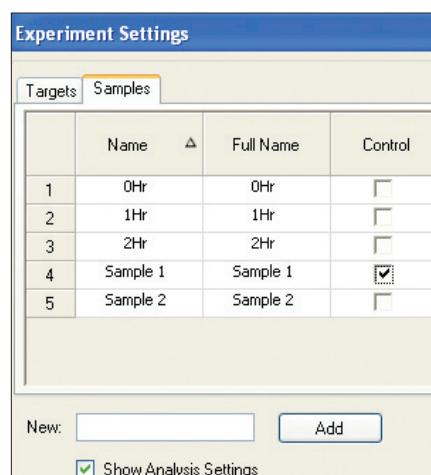

Fig. 3. Assigning the control sample.
- Click the appropriate checkbox to indicate the sample that will be used as the control in the calculations (Figure 3). The control sample is assigned a value of 1 for every gene, while all other samples are presented with values relative to the control.